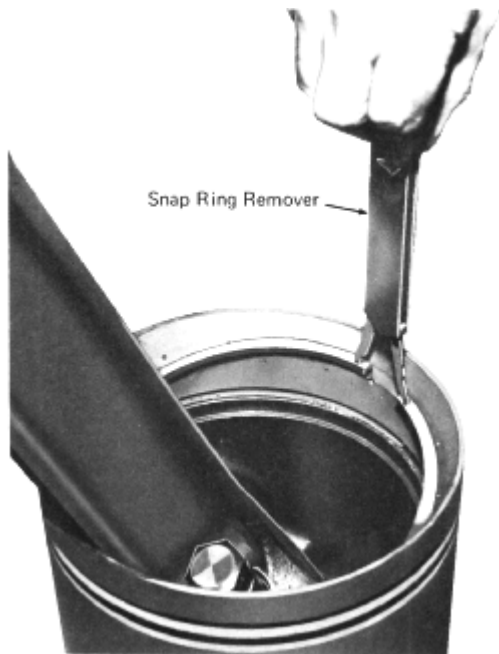

Fig. 3-6 - Removing Piston Snap Ring
1. Place piston and rod assembly on a wooden topped work bench and remove piston snap ring, Fig. 3-6, using snap ring remover. Care should be taken in handling piston assembly to avoid nicking or scraping the piston skirt.